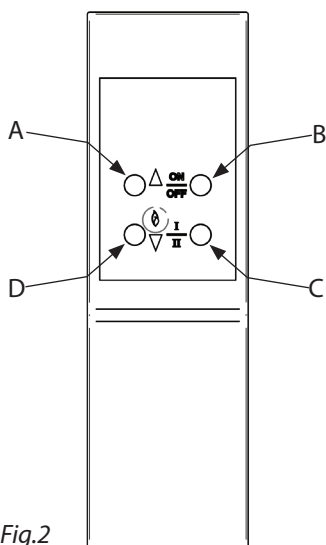

Fig.2
- If Step 2 is connected to the EFC25, then it can be controlled by the remote (Fig. 2-C).